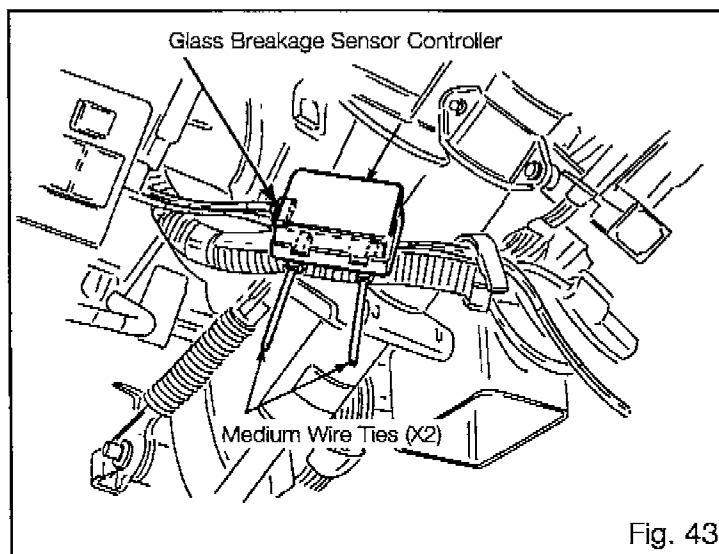

Fig. 43
- (2) A) Locate the RS3000 harness' 6P connector back in the driver's cowl area near J/B No. 1. Fig 43
- B) Plug in the RS3000 harness' 6P connector into the Glass Breakage Sensor Controller. Fig 43
- C) Secure the Glass Breakage Sensor Controller and 6P connector wire to the vehicle's wire harness as shown. Fig 43